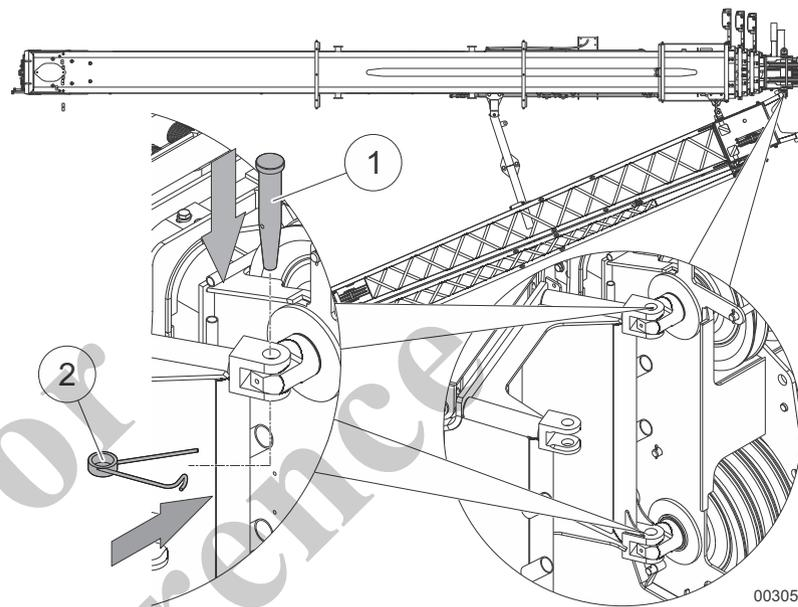

Fig. 124 Bolting the fly boom to the boom head
- 15 Bolt the fly boom to the telescopic boom at the bolting positions (1) in Fig. 124 and secure with retaining springs (2) in Fig. 124.